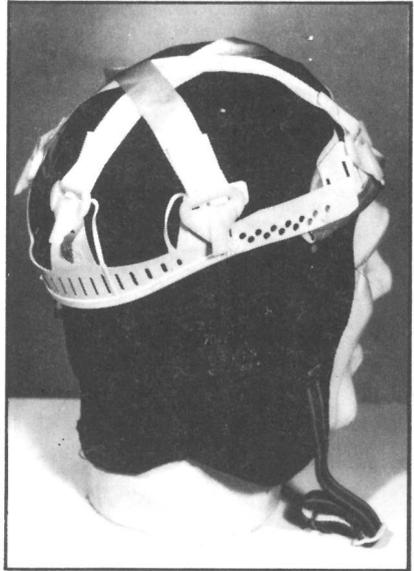

FIGURE 4
2.03 Winter liners with ear flaps for use with safety cap are available as accessory items. The liner is worn with the suspension over the liner as illustrated in Figure 4.